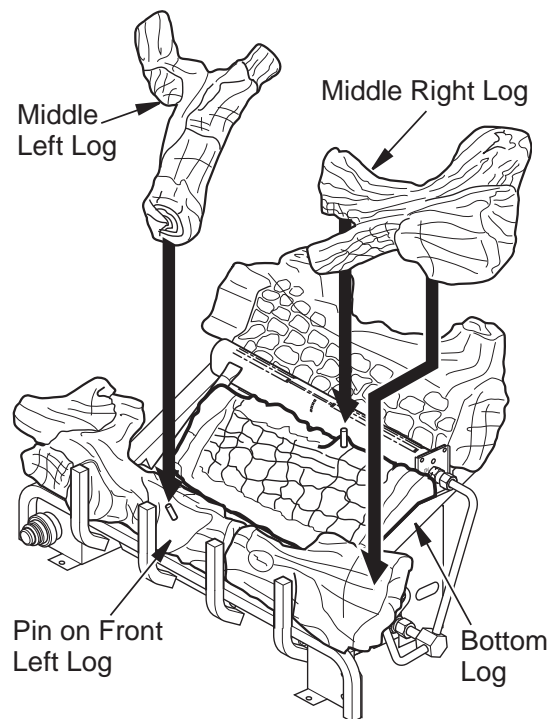

Figure 19 - Installing Log Set
5. Place middle right log over front right and bottom logs as shown in **Figure 19**. Be sure hole in middle right log seats over pin in bottom log.
6. Place middle left log over front left and bottom logs as shown in **Figure 19**. Be sure hole in middle left log seats over pin in front left log.